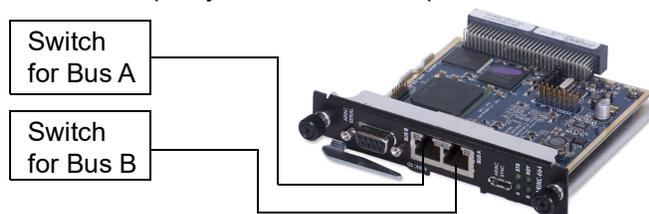

Figure 1-7 Connection diagram for the DNx-ARINC-664
2. Connect the network interface(s) to the switch(es) (**Figure 1-7**):